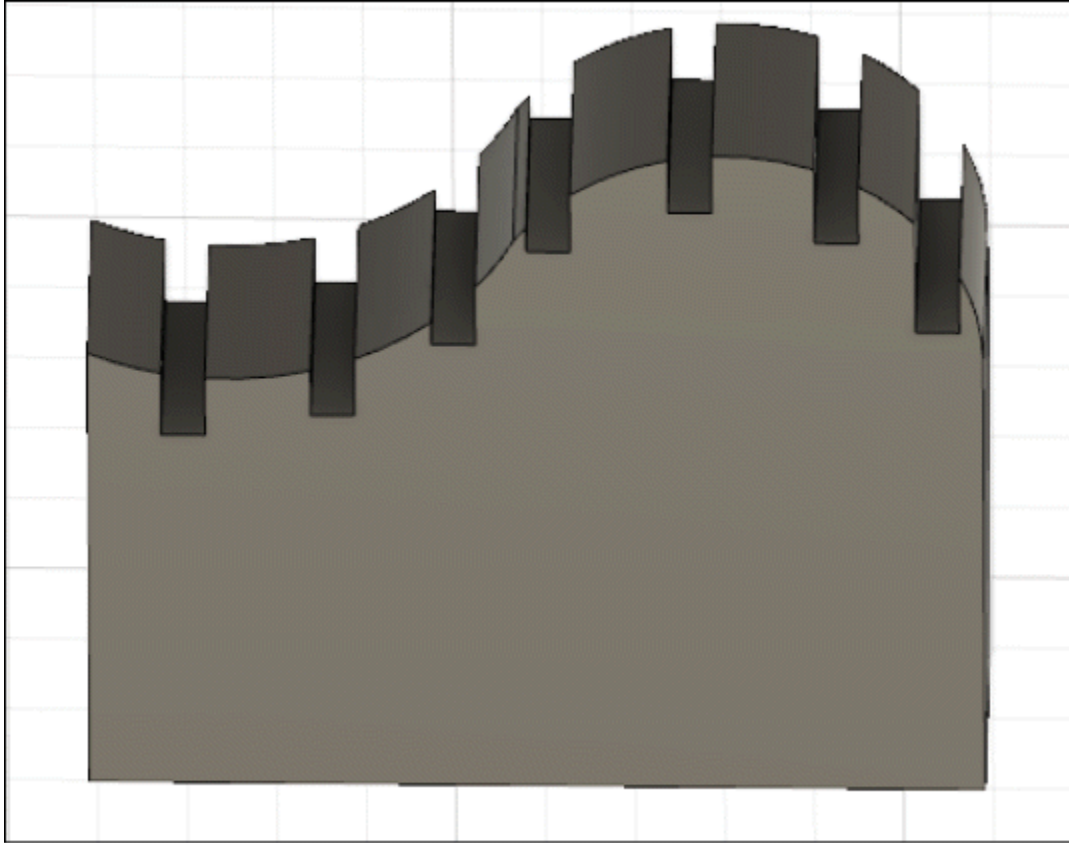

Figure-103. Solid model after applying pattern on path tool
- Click **OK** button from **PATTERN ON PATH** dialog box to complete the process of creating the copies; refer to Figure-103.